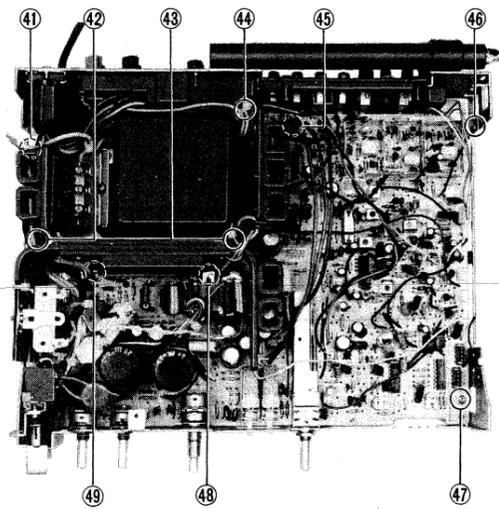

Fig. 6
16. Remove the 2 setscrews (㉟, ㊱ in Fig. 6) used to fasten the earth (ground) terminal and printed circuit board.
18. Unsolder the leadwire (㊲ in Fig. 6) from battery terminal.
19. Cut the 4 leadclampers (㊳ ~ ㊵ in Fig. 6)
5. Remove the 2 setscrews (48, 49 in Fig. 6) used to fasten the power IC.